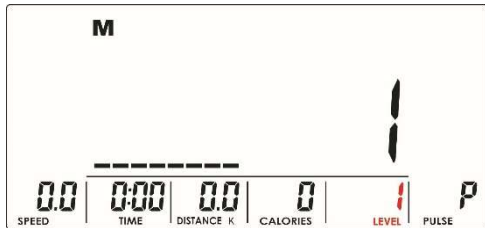

Fig. 04
- Use the UP or DOWN buttons to change the resistance LEVEL. Level 1 is set by default (Fig. 04).